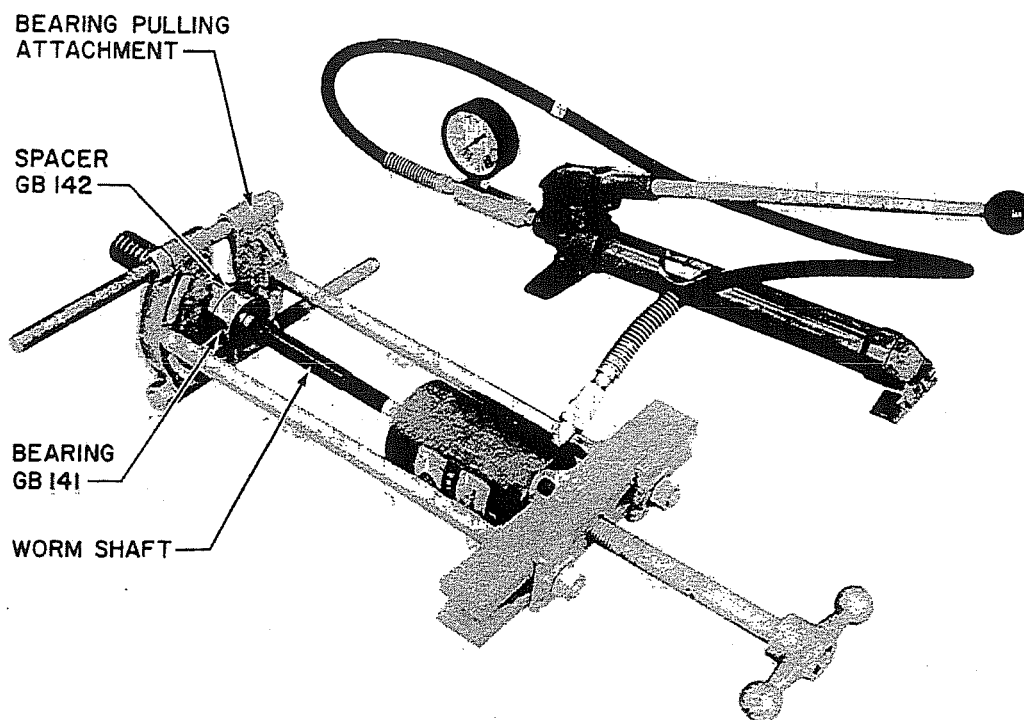

Figure 3. Worm Shaft, Removal of Bearing GB141 and Spacer GB142
- A. Bearing GB141 may be removed by securing a bearing pulling attachment or gear pulling fingers behind the shoulder of Spacer GB142 and applying approximately 2 tons pressure to the worm shaft. Bearing GB141 and Spacer GB142 will be removed together (figure 3).